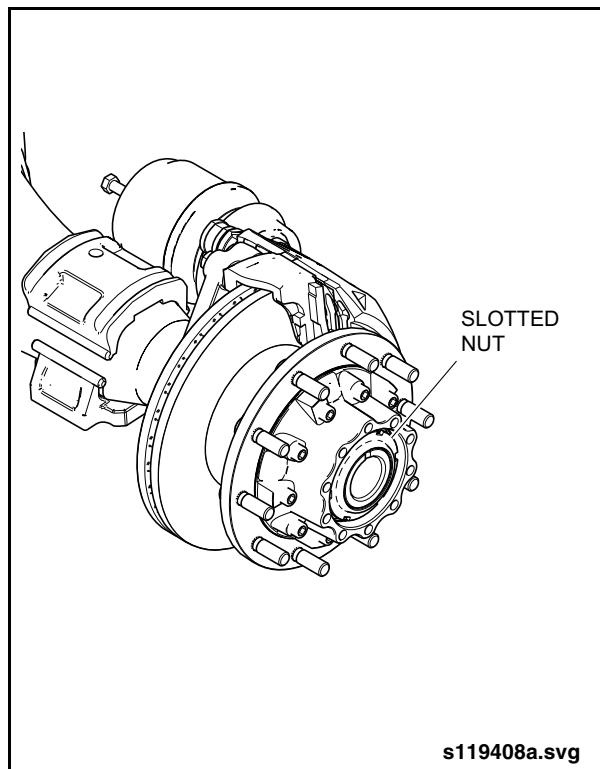

Fig. 2-14: Slotted Nut
1. Install the Slotted Nut Socket (Item 8 from special tools list) over the centering device and onto the slotted nut. See "Fig. 2-14: Slotted Nut" on page 18.